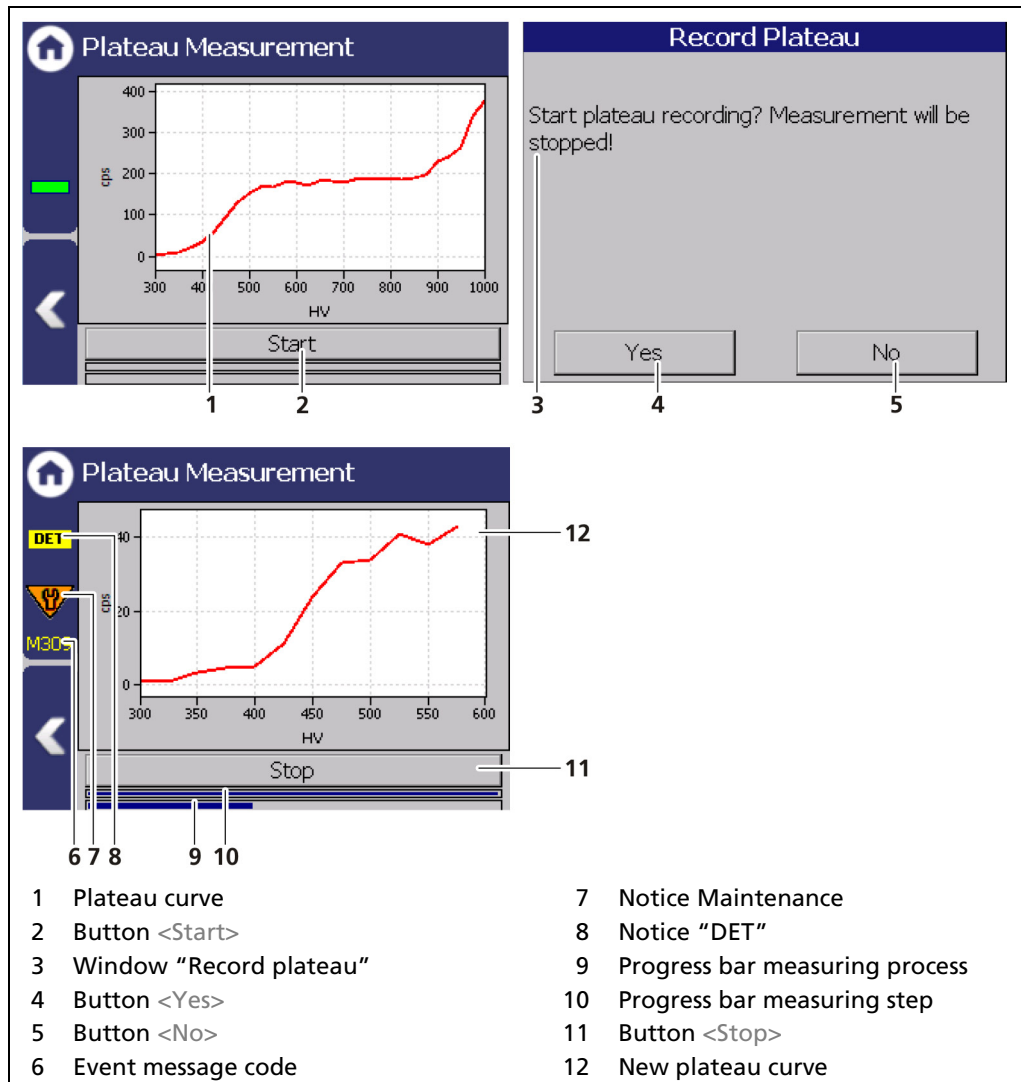

Fig. 61 Recording a plateau curve
1. Click on <Start> (Fig. 61, item 2) to perform a plateau measurement.
- The confirmation message "Record plateau" (Fig. 61, item 3) opens.
2. Confirm with <Yes> (Fig. 61, item 4).
- The EVU switches to mode "DET" (Fig. 61, item 8) and the current measurement is stopped.
- The information (Fig. 61, item 6 - 8) from the plateau measurement are displayed in the status information. The LED Run flashes on the EVU during the plateau measurement. The LED "Warning" LED lights up at the same time.